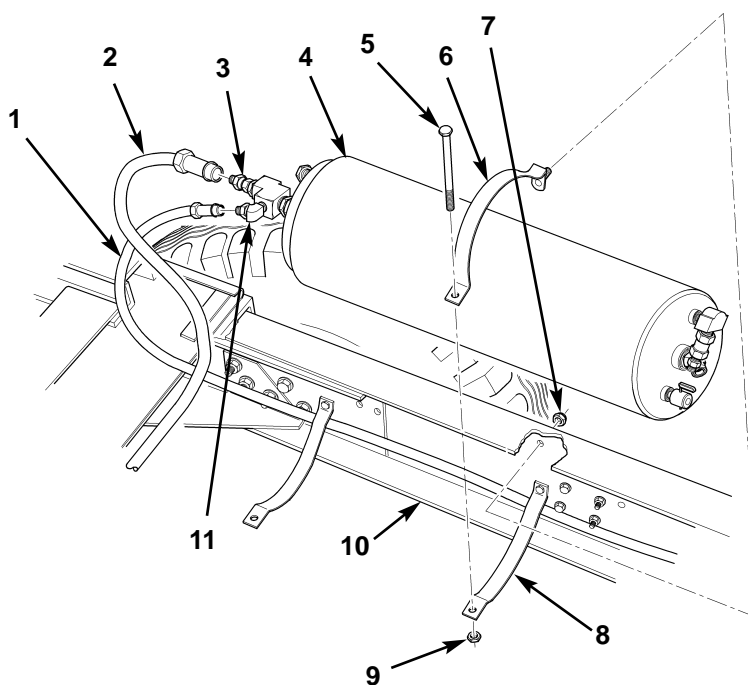

Figure 59. Installing Primary Reservoir.
43. Route 5/8 in. (16 mm) green tube (figure 59, item 1) from brake treadle valve along left frame rail (figure 59, item 10), and connect end of tube (figure 59, item 1) to elbow (figure 59, item 11) on primary reservoir (figure 59, item 4). Secure tube (figure 59, item 1) with tie straps.
44. Connect tube (figure 59, item 2) to adapter (figure 59, item 3) on primary reservoir (figure 59, item 4).
45. Position primary reservoir (figure 59, item 4) on lower clamps (figure 59, item 8), and install upper clamps (figure 59, item 6) on left frame rail (figure 59, item 10) with two nuts (figure 59, item 7).
46. Secure primary reservoir (figure 59, item 4) to left frame rail (figure 59, item 10) and two upper and lower clamps (figure 59, items 6 and 8) with two screws (figure 59, item 5) and nuts (figure 59, item 9).